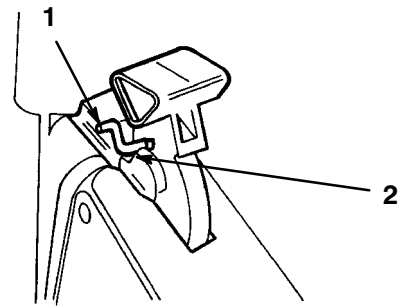

Figure 40
18. Pull the handle rearward until the handle latch locks into the notch in the bag door latch (Fig. 40).
Note: In Figure 40, the brush guard is not shown for the purpose of clarity.